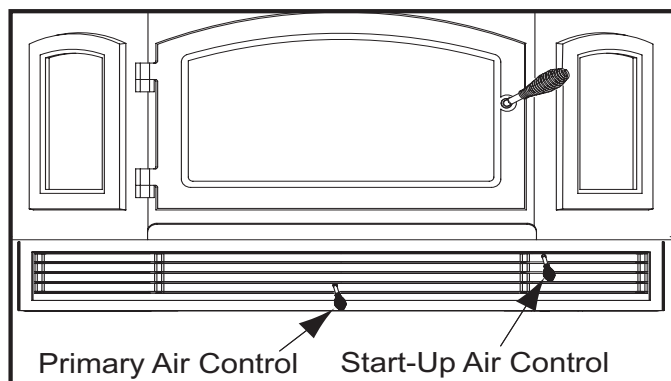

Figure 19A
3. Open Start-Up Air Control (right side) and Primary Air Control (under ashcatcher) fully. **See Figure 19A on page 19.**
The combustion air enters at the rear of the firebox through the rear air tubes. This air supply is controlled by the Start-Up Air Control. **See Figure 19A.**
The primary air enters at the upper front of the firebox near the top of the glass door. This preheated air supplies the necessary fresh oxygen to mix with the unburned gases, helping to create secondary, tertiary and quaternary combustion. This air is regulated by the Primary Air Control. For more primary air (more heat), push rod in. For less primary air (less heat), pull rod out. **See Figure 19A.**